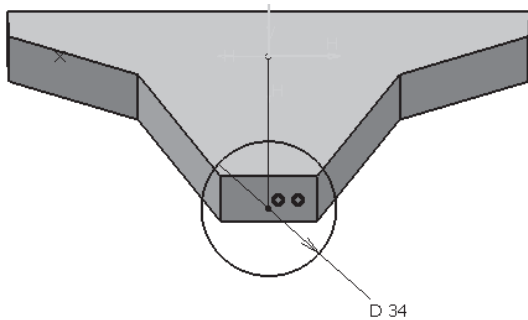

Figure 6-77 Sketch for the second feature
- Create the second feature of the model by extruding a sketch using the **Drafted Fillet Pad** tool, refer to Figures 6-77 and 6-78.
4. Use the newly created plane to invoke the **Sketcher** workbench and draw the sketch, as shown in Figure 6-77.